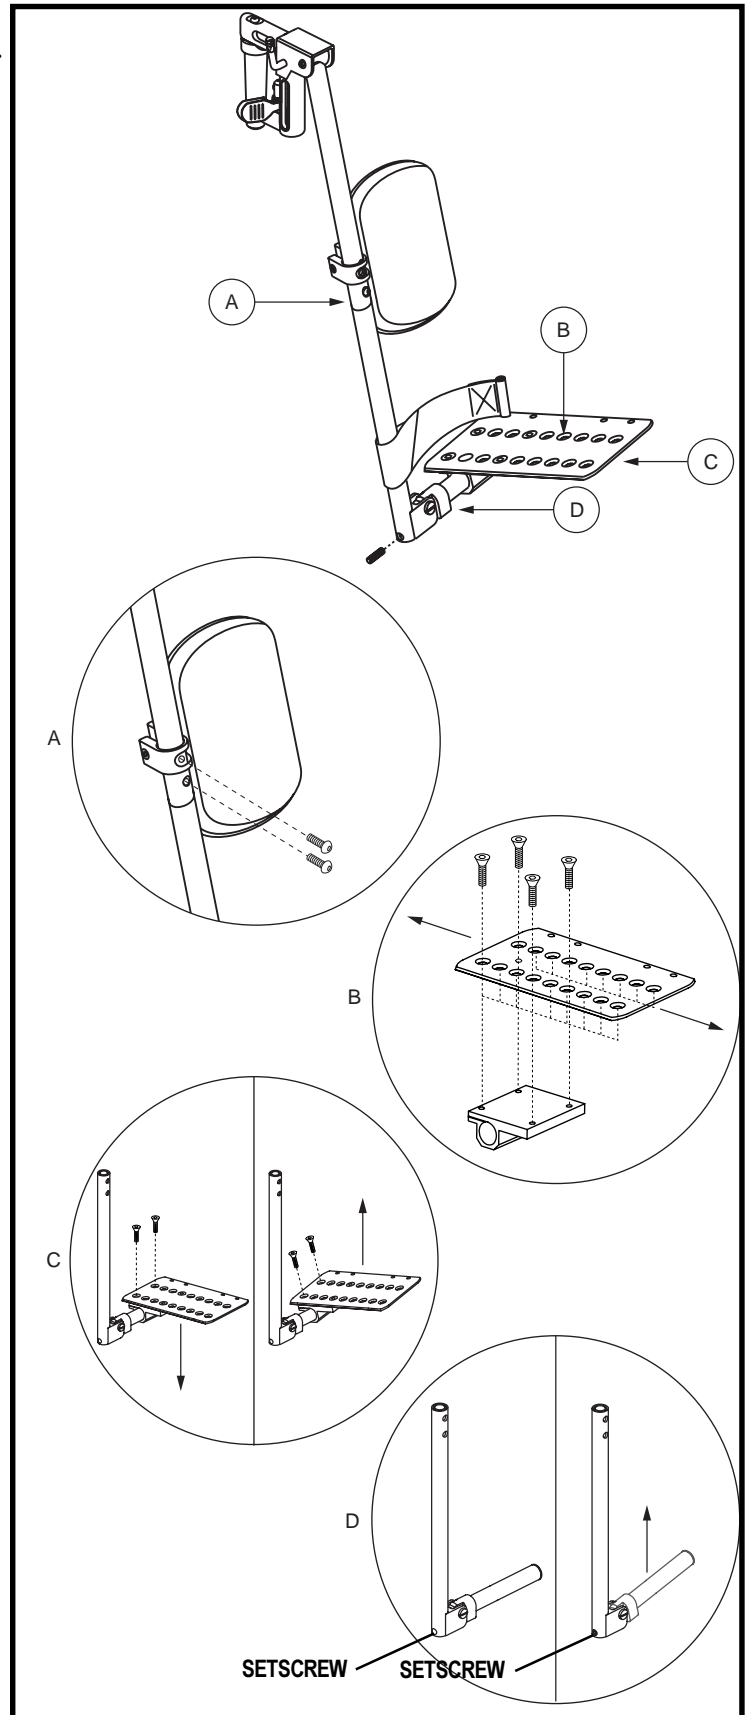

Figure 21. Multi-Axis Foot Plate
The multi-axis foot plate assembly can be installed on either a swing-away footrest or an elevating leg rest. The multi-axis foot plate has four adjustments: leg rest length (A), position (B), tilt (C), and angle (D). See figure 21.